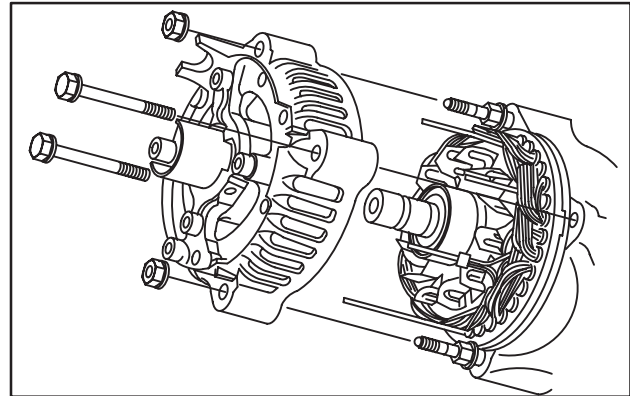

Fig. 37 – Assemble Housings
3. Assemble brush end housing to drive end housing with reference marks aligned, Fig. 37.